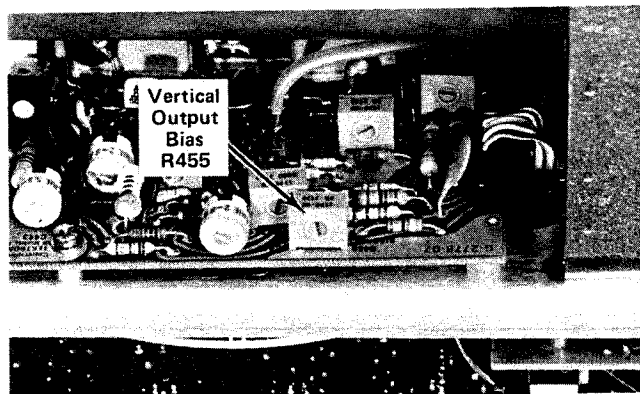

Fig. 5-7. Location of Vertical Output Bias adjustment.
- c. ADJUST—Vertical Output Bias adjustment, R455, (see Fig. 5-7) for maximum deflection of signal.